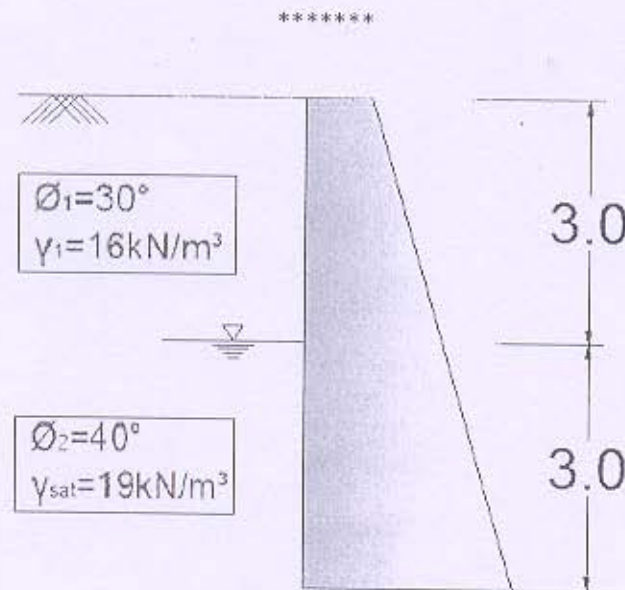

Figure 1
- Q - 3 (a) For the retaining wall shown in Figure 1, assume the active condition. Using [05]